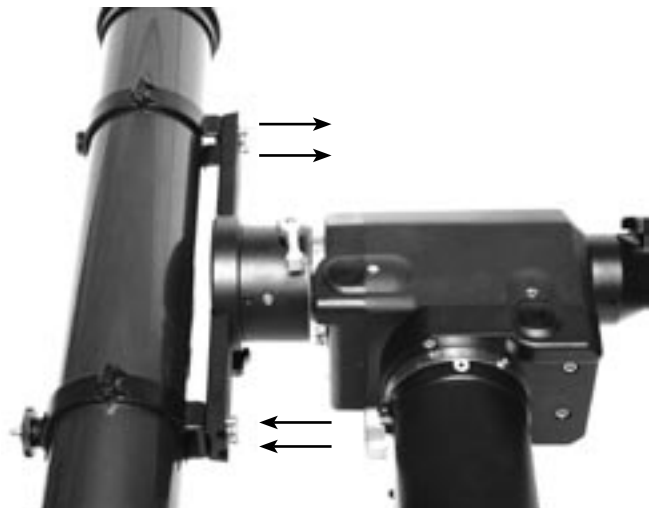

Figure 20a. Adjust the optical axis offset screws this way if Polaris moves toward the center of the eyepiece when the tube is pushed as in Figure 19.
13. Make adjustments to the optical axis offset adjustment screws (the socket head cap screws located at each corner of the mounting plate, (Figure 3) according to the results of step 11. If Polaris moves toward the center when the telescope is pushed as indicated in Figure 19, loosen the adjustment screws near the front of the tube and tighten the adjustment screws closer to the back of the tube (Figure 20a). If Polaris moves away from the center when the telescope is pushed as in Figure 19, loosen the adjustment screws near the back of the tube and tighten the adjust-